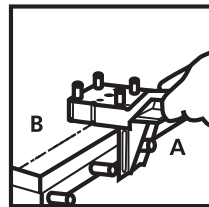

Figure 19
9. Place the Quick Dowel Jig on top of board B with the pegs of the jig pointing up. Line up the markers on the sides of the Quick Dowel Jig with the centre line you marked earlier for the dowels in board B. Slide in the angle piece over one of the dowel pins in board A, using the appropriate slot in the angle piece. With the angle piece flush against the edge of board B, tighten the screws. See Figure 19.